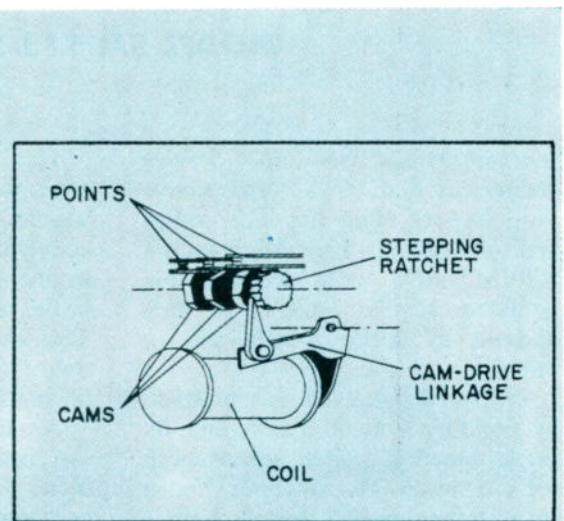

Fig. 7—Stepping relay cam employed in step controlled volume systems.
The two general equalization circuit types are lossy and feedback. Typical circuit configurations of both types are shown in Fig. 7. The lossy type circuit can be considered
Fig. 7 (A) — Bass boost circuit from lesser type equalization. (B) — Treble boost circuit for RC lesser circuit. (C) — Feedback insertion in a single stage. (D) — Tuned cathode feedback circuit.
When the volume change relay is closed, current through the stepping relay coil moves the stepping ratchet, turning a set of cams which open and close contact points. This action switches resistors in and out of the audio circuit as seen in Fig. 5. The stepping relay and cams are shown in Fig. 7. A stepping switch could be used to switch resistors in and out of the audio circuit. Not all sets shunt the volume control with resistors. Some even have small resistors in series with the speaker leads.